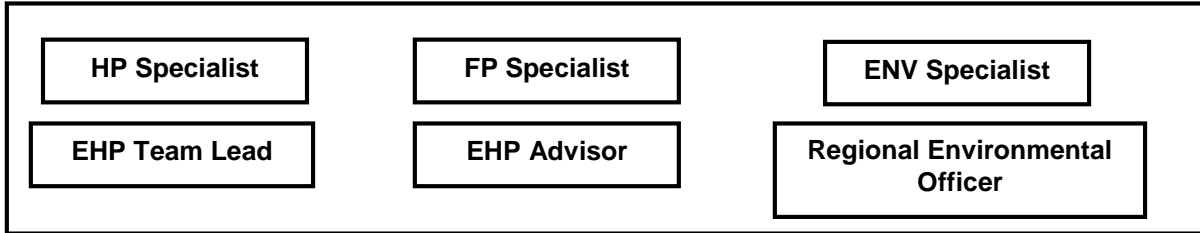

Figure 1.1: Positions
Positions and Roles: Positions (Figure 1.1) are assigned to EHP staff by EHP managers and designated in the NEMIS Access Control System (NACS). An individual’s Position is typically based on skills and expertise. For example, an architectural historian would likely have the Position of Historic Preservation (HP)